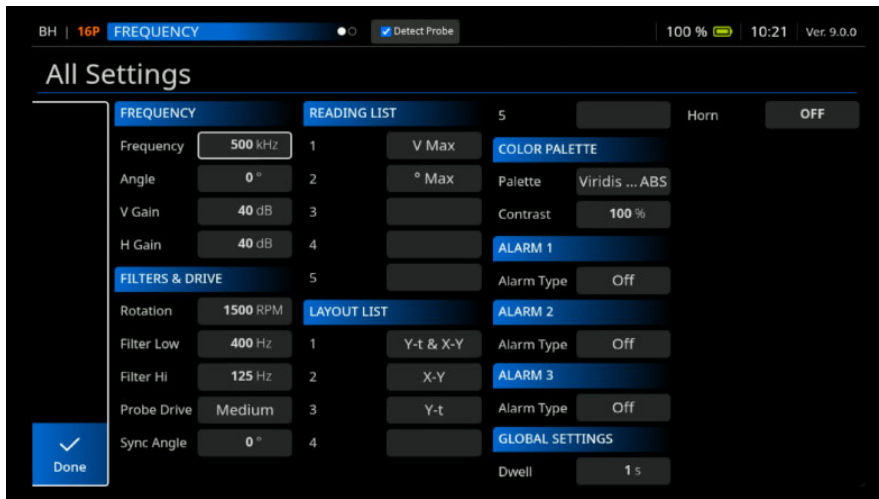

Figure 5-6 Figure 6 Inspection Parameters
3. Review the Figure 6 Inspection Parameters, which are already preset.(See Figure 5-6 on page 195).